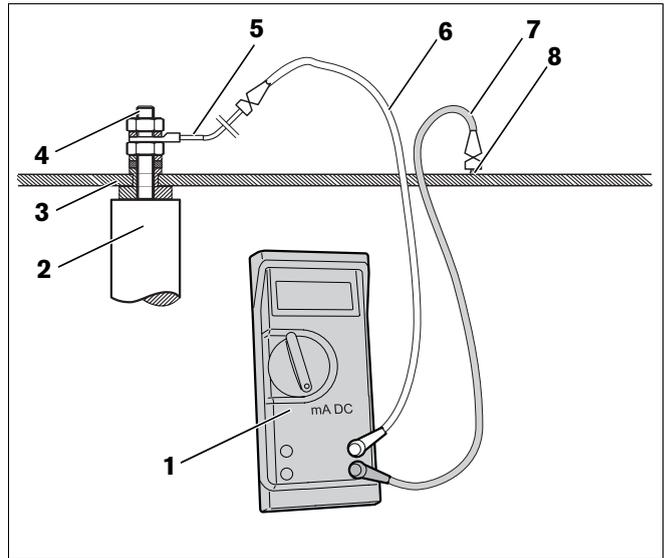

Fig. 15 Checking anode with multimeter
- Check magnesium anode rod (Fig. 15, **Item 1**) for decay. Replace the magnesium anode rod if its diameter has been reduced to about 1/2" to 3/4".
- Disconnect the anode ground wire (Fig. 15, **Item 5**) at one of the two connection points.
- Set the multimeter (MM)(Fig. 15, **Item 1**) to mA DC (milliamps).
- Connect the black cable (Fig. 15, **Item 7**) on the MM to a hex screw (Fig. 15, **Item 8**) on the access port cover.
- Connect the red cable (Fig. 15, **Item 6**) on the MM to the anode.